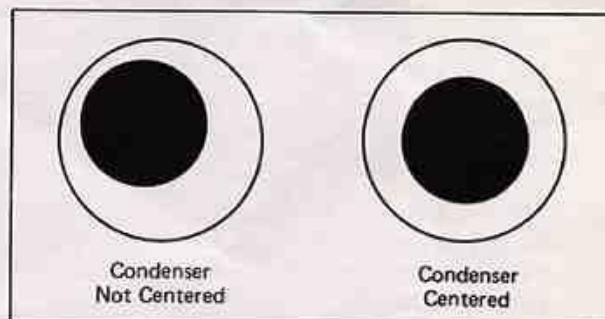

Figure 11. No. K2172 Large Area Darkfield Condenser
- a. With the 10X objective, focus on the specimen. A few bright areas will be visible in the field. (It may be helpful to turn the transformer to a high voltage.) Lowering the condenser slightly produces a darkened area covering about two-thirds of field. Move this darkened area to the center of the field (Figure 11) by means of the two centering screws on the condenser.